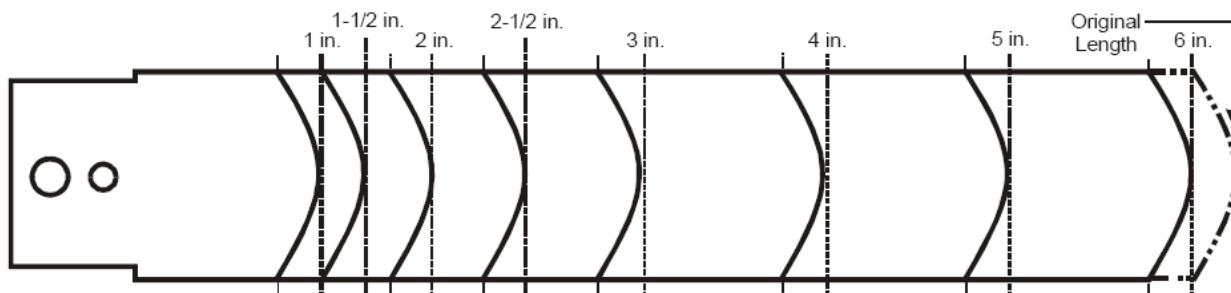

Figure 5 Teimming Template for the Extra Paddle
- FS80-C Flow Switch comes with 4-piece paddle (1 in., 2 in., 3 in., and 6 in. segments). Adjust the paddle to the size of the pipe in which it will be installed. If needed, use the template (see Figure 5), and trim the large paddle at the arc corresponding to pipe size and install.